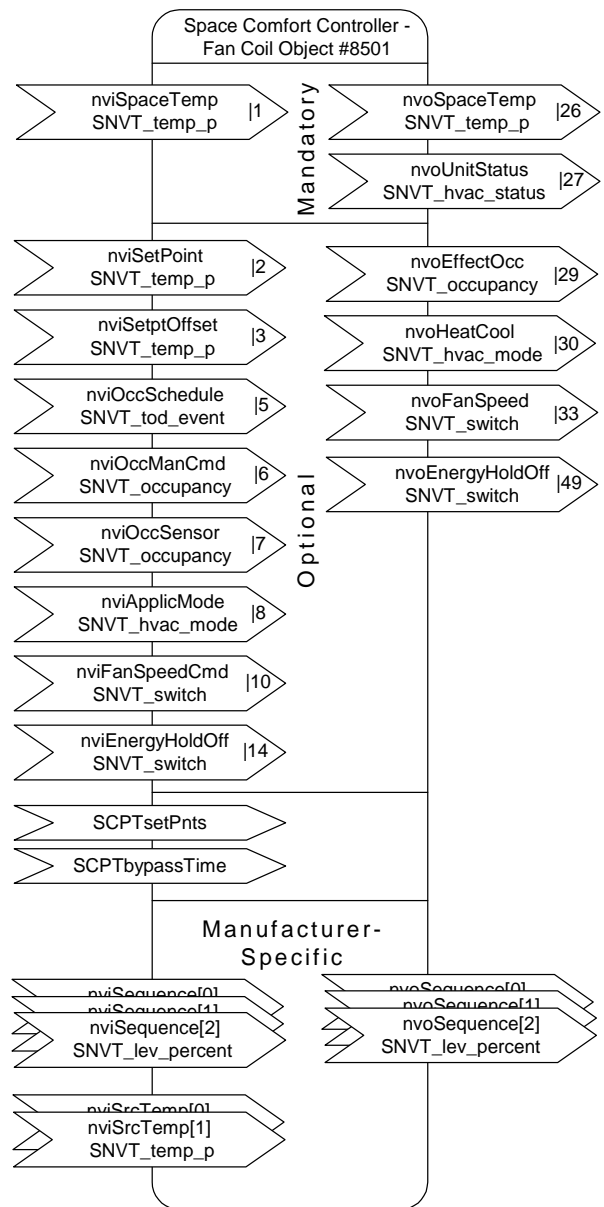

Fig. 7. FCU Controller Object
- un space comfort controller object (#8501 SCC – Fan Coil) (voir Fig. 7)